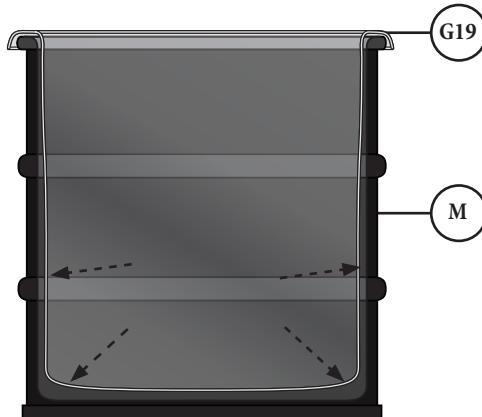

FIG. 25
25 Place a Liner Bag (G19) inside the Drum (L). Take care to ensure that the Liner Bag (G18) is fully expanded to the inside of the drum and so that the upper edge of the Liner Bag (G18) is folded out and over the lip of the drum [FIG. 25].